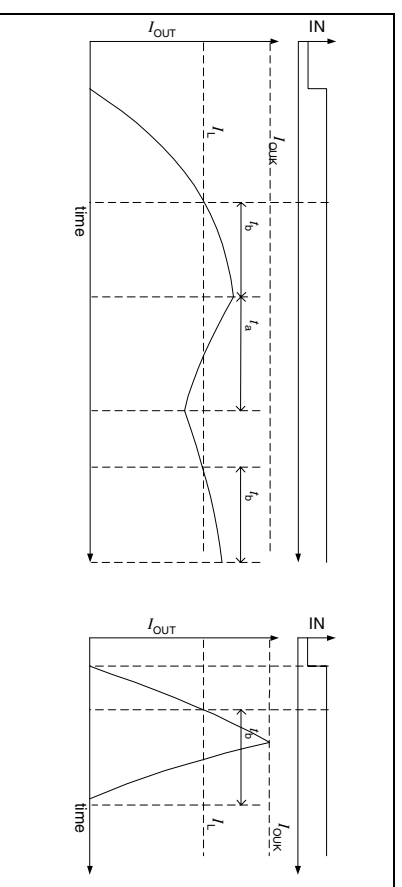

Figure 5 Short to V_S detection. Left: normal operation. Right: short circuit is detected
Due to the chopper current regulation, the low-side switches are already protected against a short to the supply voltage. To be able to distinguish a short circuit from normal current limit operation, the current limitation is deactivated for the blanking time t_b after the current has exceeded the current limit threshold I_L . If the short circuit detection current I_{OUC} is reached within this blanking time, a short circuit is detected (see **Figure 5**). All output transistors are turned OFF and the according error bit "Short Circuit to Battery on output 1 (2)", SCB1 (SCB2) is set.